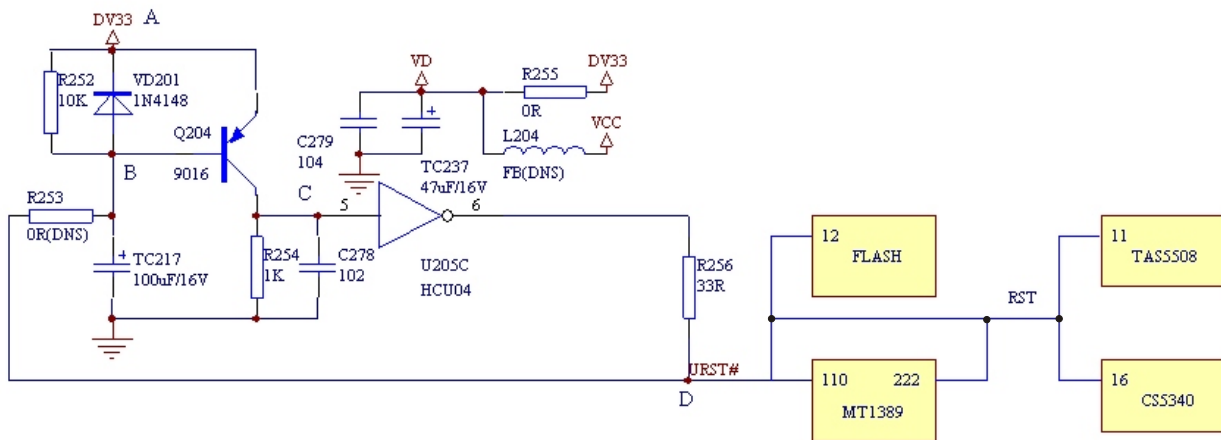

Figure 3.2.6.1 Reset circuit diagram
1. Reset circuit is shown as the following figure 3.2.6.1: